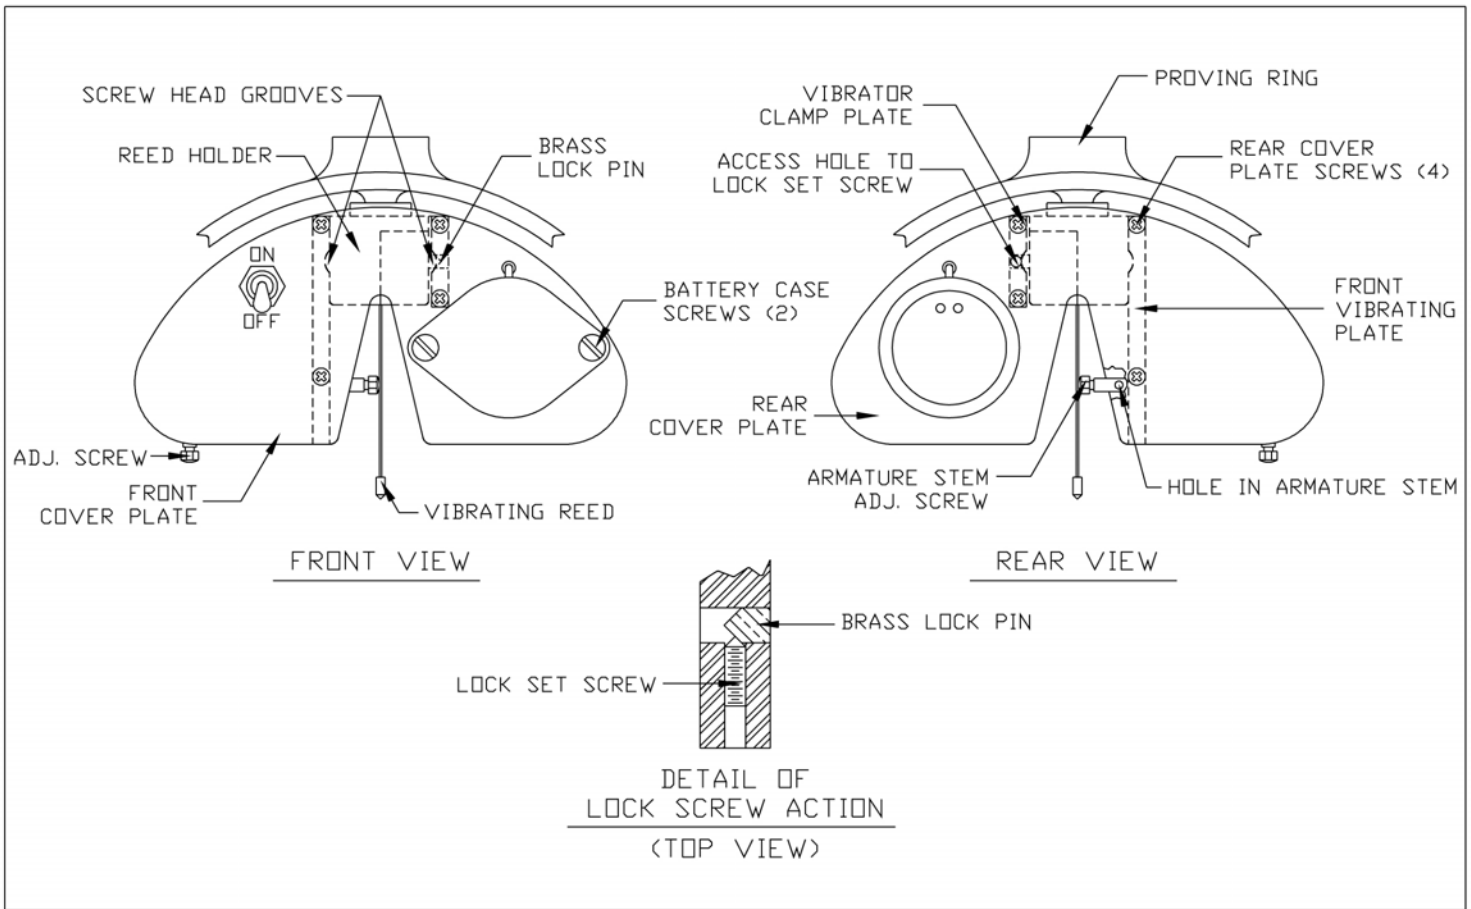

Figure 4: Detail View of Electric Reed Vibrator
- 2-** Refer to Figure 4 and notice the detail of the lock set screw. The set screw has a cone end which bears on the cone end of the brass lock pin. Turning the set screw in forces the lock pin against the side of the reed holder. This action forces the Electric Reed Vibrator square with and against the reed holder.